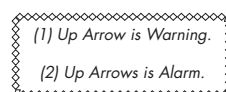

Fig. 64 - PO2 ALARM
If PO2 continues to increase and reaches the PO2 Alarm level, the Audible will sound again during which (2) Up Arrows and the PO2 value with icon will flash in place of Pressure (Fig. 64).